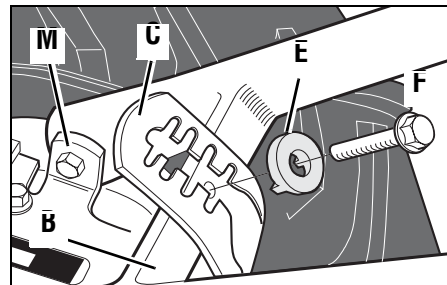
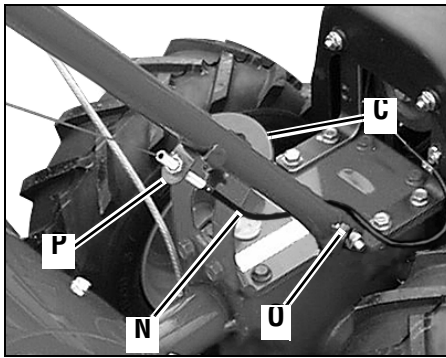

Figure 2-3: Forward clutch control cable not shown for clarity.
Figure 2-4: Attach handlebars.
2. Gently lift handlebar (do not overstretch attached cable) and place handlebar cross-brace (B, Figure 2-3) in front of curved height adjustment bracket (C).
3. With the forward clutch cable (N, Figure 2-4) on the inside of handlebar, position the handlebar ends on the outside of the two mounting tabs (M, Figure 2-3) on the transmission top cover.
NOTE: The curved handlebar height adjustment bracket appears as shown in C, Figure 2-3 for non-electric start units. For electric start units, the bracket is loosened and moved to one side.
4. Loosely attach the handlebars to the mounting tabs with two 3/8-16 x 1" screws (heads of screws go to inside of tabs), 3/8" flat washers and 3/8"-16 lock nuts (O, Figure 2-4).
5. Move the handlebars up or down to align the threaded hole in the cross-brace with one of the four slots in the curved height adjustment bracket. Place the keyed washer (E, Figure 2-3) on the flange head height adjustment screw (F) with the raised keys (edges) of the washer facing down.
6. Thread the height adjustment screw (F, Figure 2-3) into the hole in the handlebar cross-brace, making sure that the raised keys on the washer fit into the slot on the height adjustment bracket. Tighten the height adjustment screw securely. Next, securely tighten the two screws and nuts in the ends of the handlebar (M, Figure 2-3).